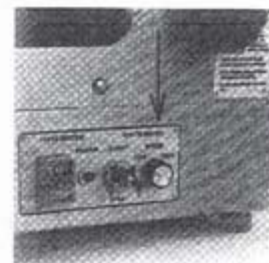

Figure 11-1
- a. Model 3750 Speed Knob should be in the low speed position. (Fig. 11-1)